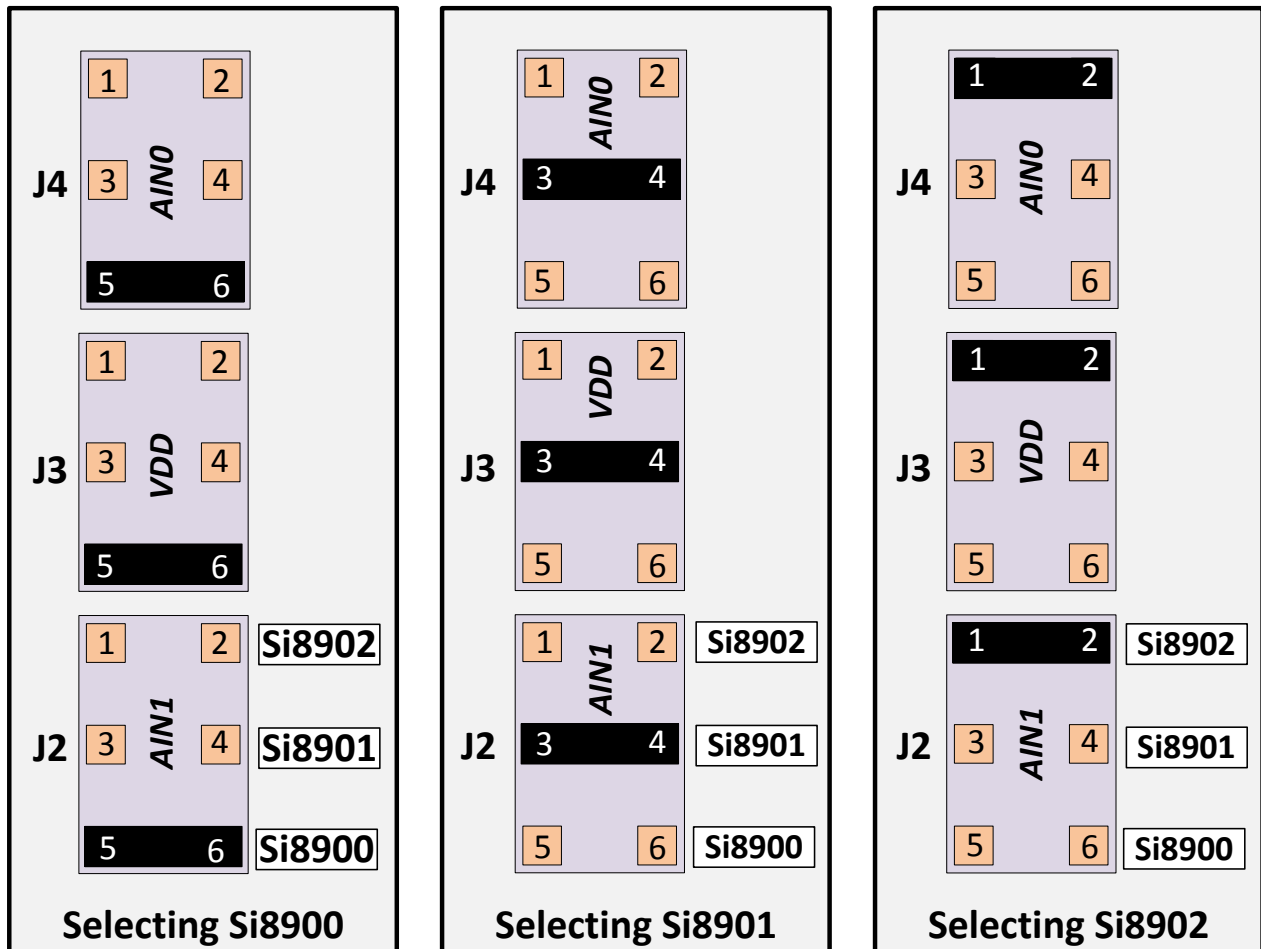

Figure 4. Si890x Input Configuration Jumpers
- b. Headers J2, J3 and J4 route the ac line-side VDD, AIN0, and AIN1 corresponding pins of the desired Si890x device (Input AIN0 typically measures line input voltage, and AIN1 typically measures ac line current). For example, if the Si8902 is the device to be used, insert shorting jumpers between pins 1 and 2 on headers J2, J3, and J4 as shown in the “Selecting Si8902” drawing of Figure 4. Configurations for selecting the Si8900 and Si8901 are also shown in Figure 4.